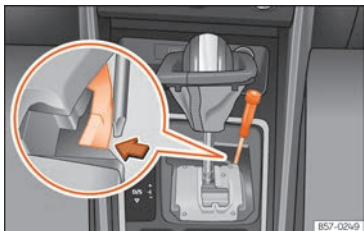

Fig. 143 Gear selector lever: manual release from the parking position.
- Using the flat part of a screwdriver, press the yellow tab sideways and keep it pressed down **Fig. 143**.